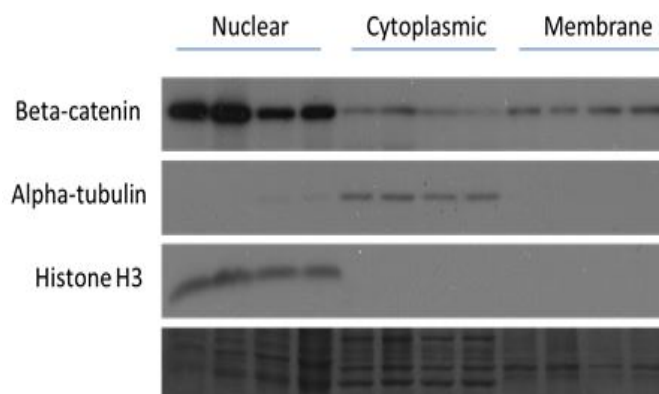

Figure 1. Western blotting of nuclear, cytoplasmic, and membrane fractions with
14. Internal loading control for Western blotting could be used to make sure each fraction does not cross-contaminate others; but relative amount can also be determined between samples to ensure equal loading. For example, alpha-tubulin is used for the cytosolic fraction; histone H3 is used for the nuclear fraction; Brilliant Blue R is used for staining for the membrane fraction. Use an extra gel for the loading controls. Alpha-tubulin and histone H3 are probed after protein is transferred onto a PVDF membrane. Brilliant Blue R staining can be applied directly to the SDS-PAGE gel (Figure 1).